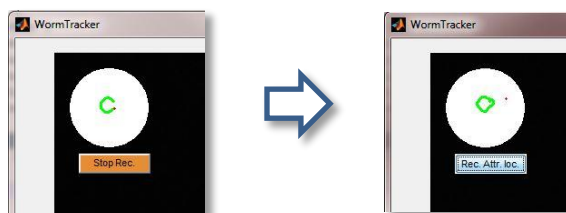

Figure 6: Recording and marking an attractant that was introduced onto the plate
The current state of the system (Recording, tracking etc.) can be viewed in the information bar (D). A location viewer (3) provides a quick assessment of the worms’ location on the plate (as well as manually inserted locations of chemoattractants), depicted as red dot (and respectively green shapes, see figure 6).
3	Location window – shows the location of the worm in respect to the agar plate. It also shows added chemoattractants (or any other object), see figure 6.
5	Creation of custom movies and snapshots. The attractant movie is recorded using the “Take movie” button: see step sub-section 1.2.6 in next page. As a result of these actions: (a) a shape of the drop will be drawn on the location window in green, see figure 6 (b) a separate .tif movie file will be created with the drops circumference, storing the exact X,Y locations. The name of the attractant movie can be changed by altering the text in the box to the left of the (6) buttons (rewriting the “Attractant name” string).
- Press “Take movie” (5)
- Using the joystick, move the stage along the circumference of the drop such that the drop border always stays in the center of the crosshairs (A)
As a result a new .tif movie will appear in the working directory storing the [X, Y] location of the drops circumference. It will be later used for post-analysis. The circumference of the drop will be drawn in green on the location window (3), see figure 6. For convenience you can run